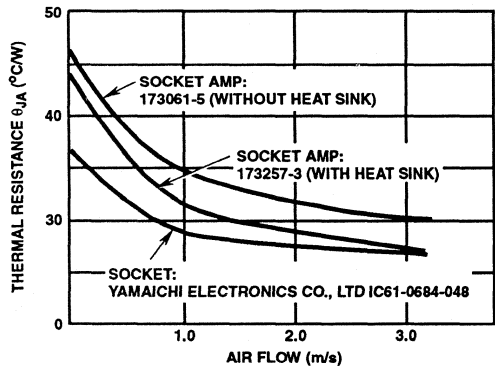

FIGURE 2. THERMAL RESISTANCE OF THE CONVERTER MOUNTED ON A BOARD
5. T_A is specified in still air and without heatsink. To extend temperature range, appropriate heat management techniques must be employed (See Figure 2).